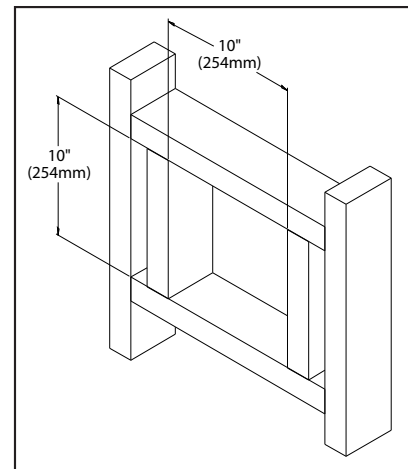

Figure 25: Wall Framing Hole for Horizontal Installation.
4. Frame the hole as shown in Figure 25.
5. Trim the wall thimble to match the wall thickness as necessary. Install the wall thimble and secure it to the inner wall frame using four (4) 1½" wood screws. If a wall is greater than 8" (203mm) in depth, the clearance above the flex must be 4¾" (111mm)
3. With the pipe attached to the stove in the correct location, mark the wall for a 10" (25.4 cm) x 10" (25.4 cm) square hole (refer to Figure 25). The center of the square hole should match the center line of the horizontal pipe. Cut and frame the 10" (25.4 cm) x 10" (25.4 cm) hole in the exterior wall where the vent will be terminated. If the wall being penetrated is constructed of non-combustible material i.e. masonry or concrete, a 7 inches (17.8 cm) hole is acceptable.